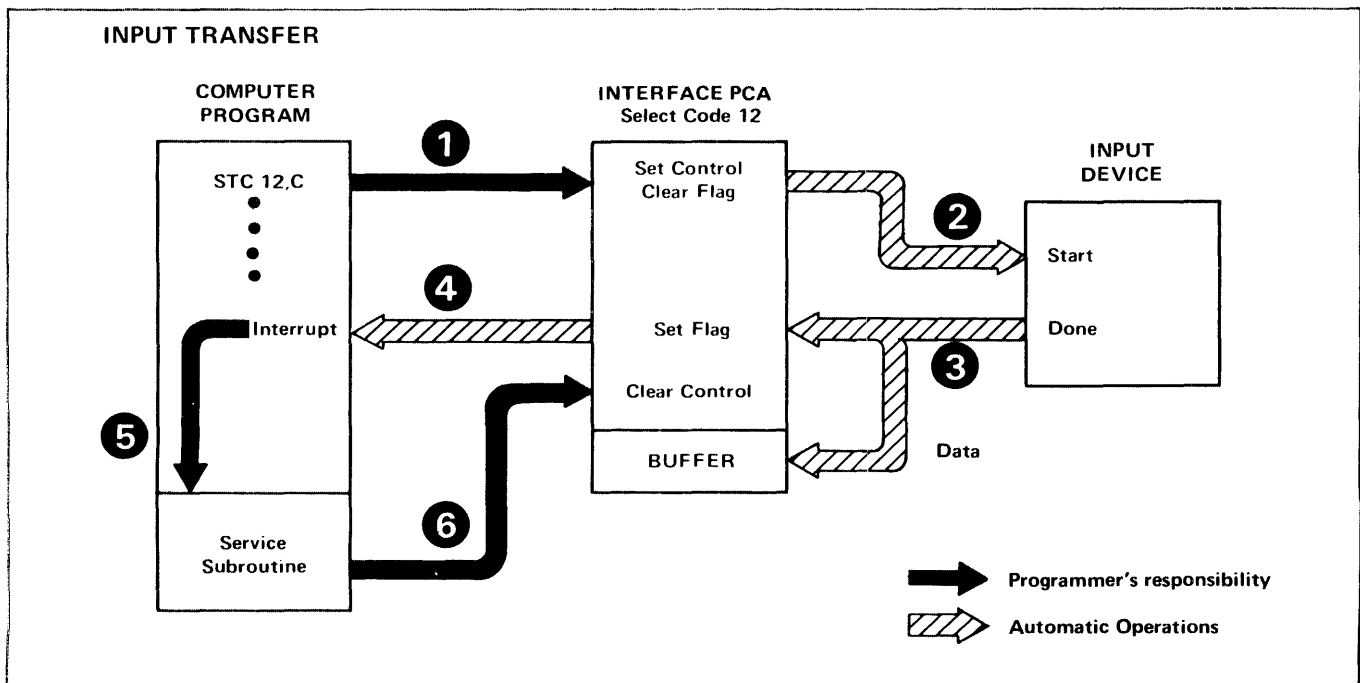
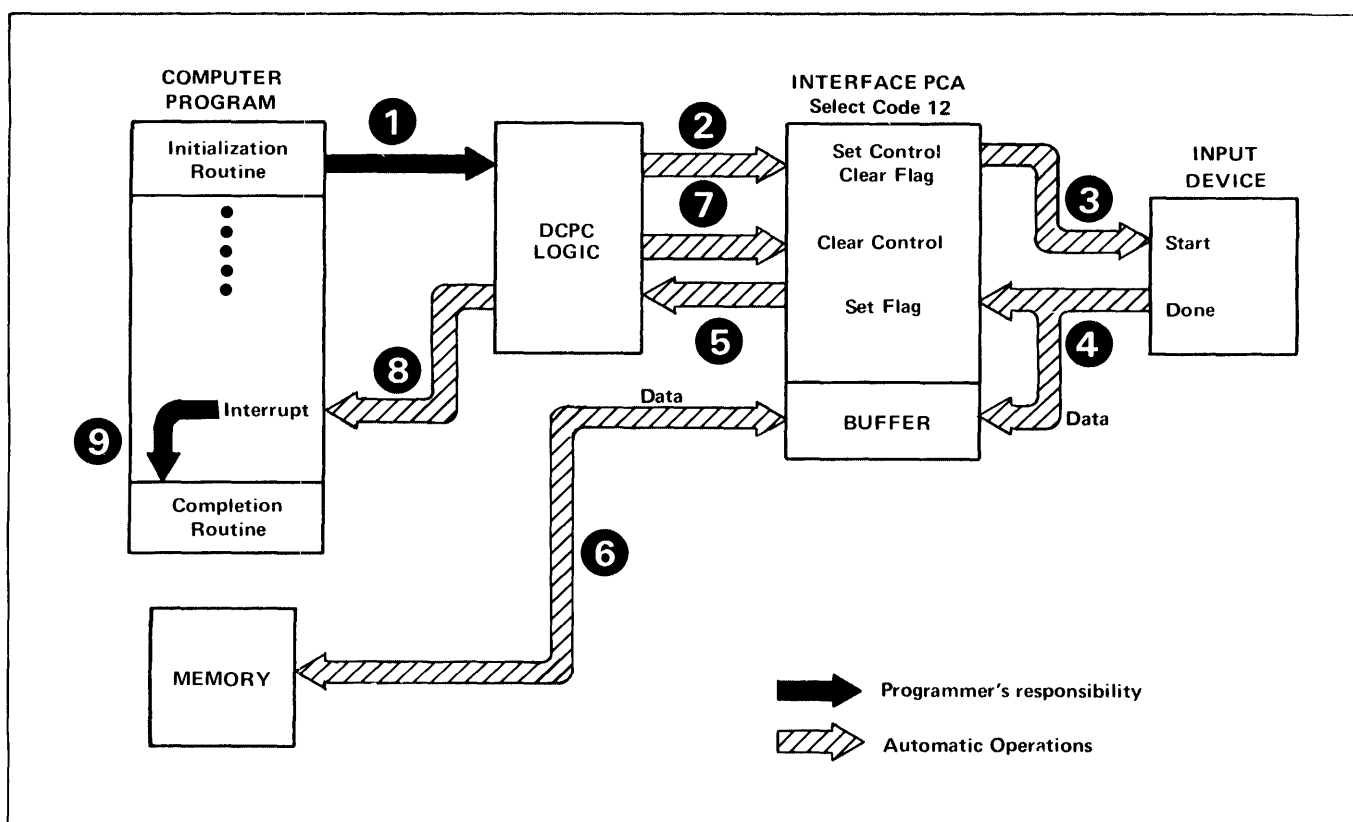

Figure 7-5. Input Data Transfer (Interrupt Method)
Figure 7-7. DCPC Input Data Transfer
Figure 7-5 illustrates the sequence of events required to input data using the interrupt method. Note that some operations are under control of the computer program (programmer's responsibility) and some of the operations are automatic. Note also that the interface PCA (device controller) is installed in the slot assigned to select code 12.
**7-14. DCPC OPERATION.** Figure 7-7 illustrates the sequence of operations for a DCPC input data transfer. A comparison with the conventional interrupt method (figure 7-5) shows that much more of the DCPC operation is automatic. Remember that the procedure in figure 7-5 must be repeated for each word or character. In figure 7-7, the automatic DCPC operation will transfer a block of data of any size limited only by the available memory space. The sequence of events is as follows. (An input data transfer is illustrated; the minor differences for an output transfer are explained in text.)